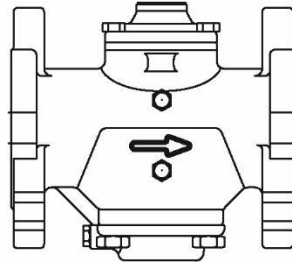

Figure 9. Flow direction icon on DN50-250 valve
4. Valves are marked to show flow direction, see Figure 9. Install the valve housing with the flow directional arrow pointing in the correct direction.